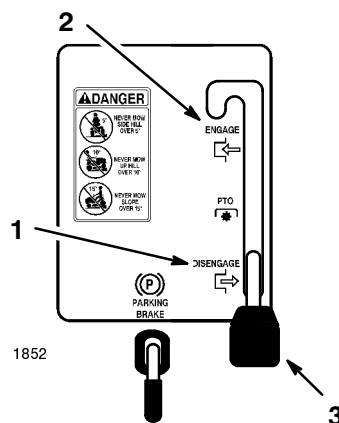

Figure 4
2. Move the blade control (PTO) to “ENGAGED” (Fig. 4).
2. Move the blade control (PTO) to “DISENGAGED” (Fig. 4).